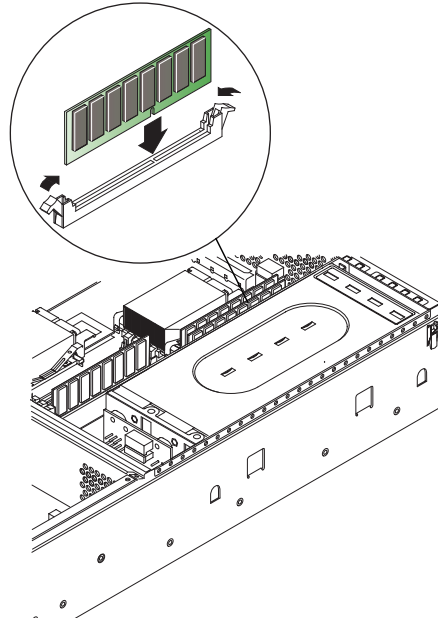

FIGURE 1-16 Installing Memory
4. Ensure that the retaining clips are open (FIGURE 1-16).